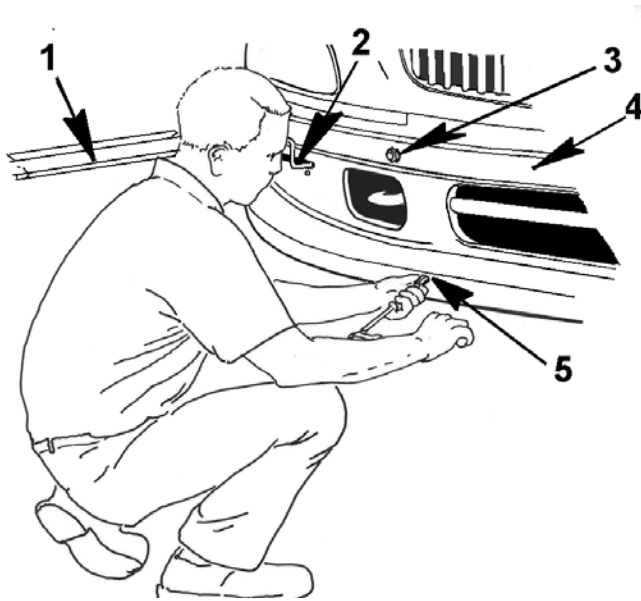

Figure 23 Bumper Removal
5. Locate the bumper mounting bolts. Beginning at the upper two bolts, loosen bolts (Figure 23, Item 3). Swing safety gate out if gate blocks access to upper bumper bolts.
6. Loosen both lower bumper bolts (Figure 23, Item 5).